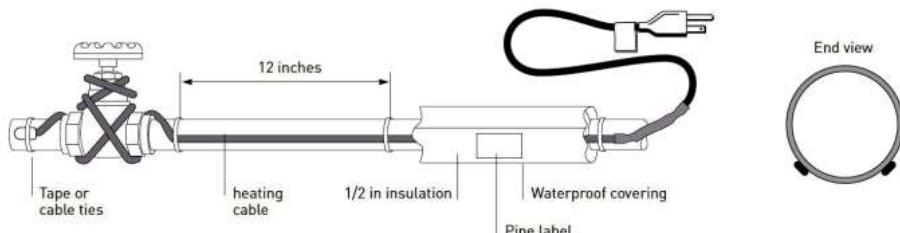
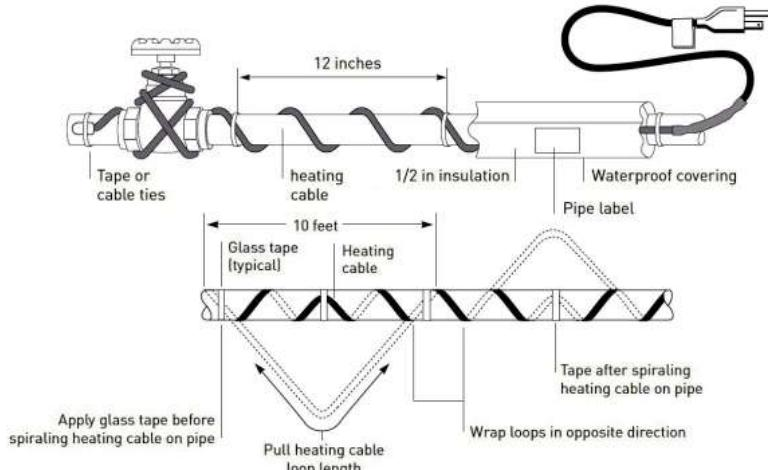

Figure 1. Straight-traced installation
Figure 2. Spiral-traced installation
- Install heating cable, using straight tracing Figure 1, or spiraling Figure 2.
- For straight tracing, install the heating cable on a lower half of the pipe; for example, in the 4 o'clock or 8 o'clock position (Figure 1 End view).
- Be sure to install the additional heating cable required for valves, flanges, etc. as shown in Figures 1 and 2.
- Heating cables can be installed in a cross overlapping manner in areas with lower temperatures, such as valves, flanges, etc(Figure 1).
- When the design calls for spiraling, begin by suspending a loop every 10 feet as shown in Figure 2. To determine the loop length, divide the length by your pipe length and multiply by 10. For example, if you are using a 50 ft on a 40-foot pipe, leave a 12-foot loop of heating cable at every 10-foot section of pipe. Grasp the loop in its center and wrap it around the pipe. Even out the distance between spirals by sliding the wraps along the pipe. Use glass tape to secure the center of the loop to the pipe.